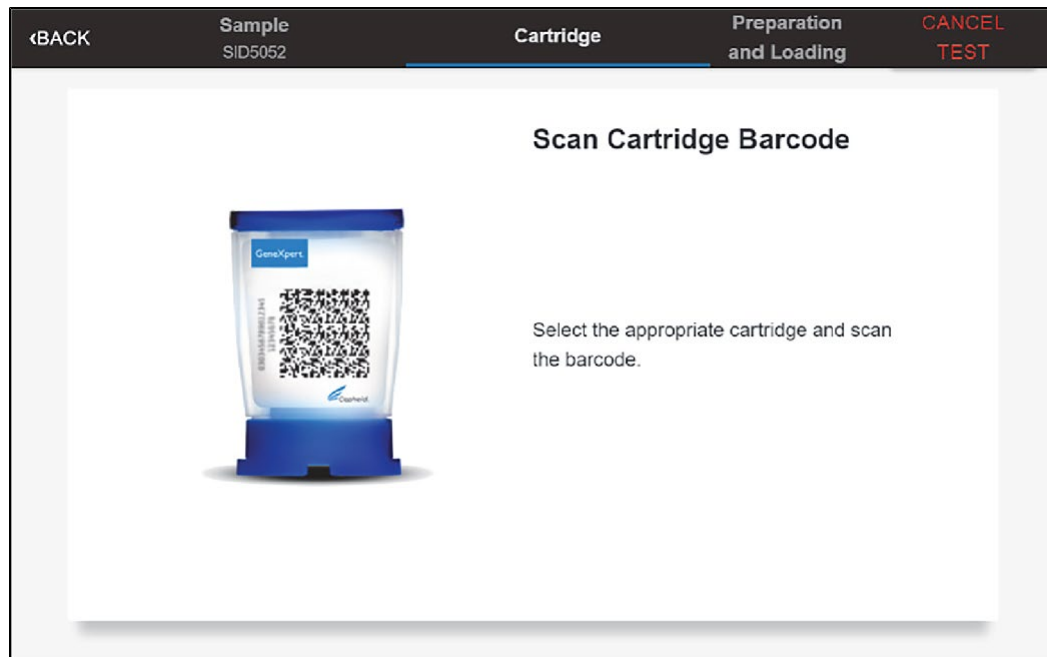

Figure 11. Scan Cartridge Barcode Screen
17. Verify the Sample ID and touch **CONFIRM**. The **Scan Cartridge Barcode** screen displays (see Figure 11).